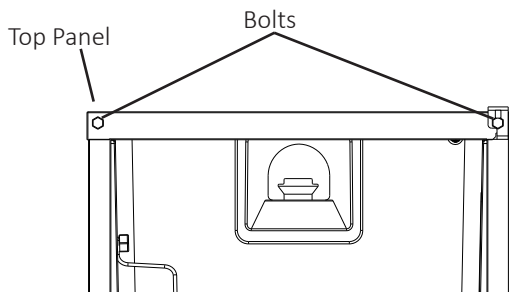

Fig. 4
- a) Contact your local distributor to purchase Perlick 70084. The kit contains "hinge (A)-left."
- b) Remove the 2 bolts securing the top panel, then lift it off (See Fig. 4).